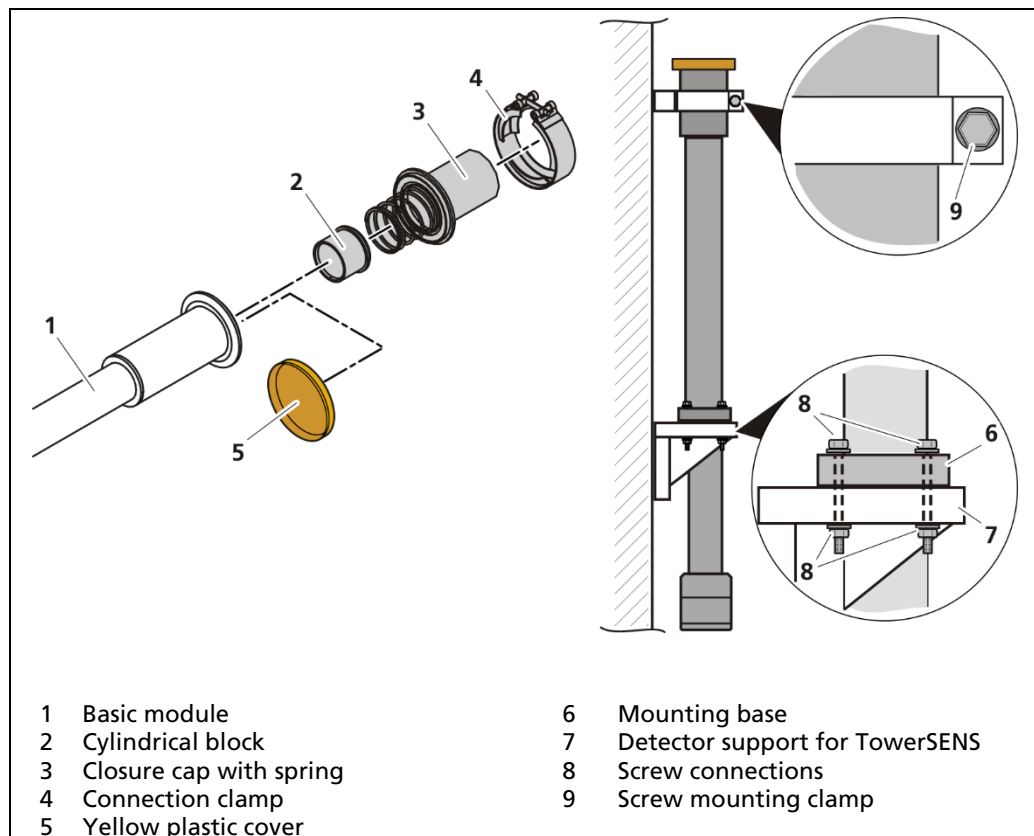

Fig. 15 Install basic module
4. Remove the closure cap (Fig. 15, item 3) with spring and cylindrical block (Fig. 15, item 2) from basic module (Fig. 15, item 1):
Press slightly from top against the closure cap (Fig. 15, item 3) while opening the connection clamp (Fig. 15, item 4).
5. Place the yellow plastic cover (Fig. 15, item 5) on the top of the basic module.
6. Position the basic module with the mounting base (Fig. 15, item 6) on the detector support (Fig. 15, item 7) and fasten them tightly together with 4 screws (Fig. 15, item 8).
7. Secure the upper end of the base module by tightening the screw (Fig. 15, item 9) on the pre-assembled fastening clamp.